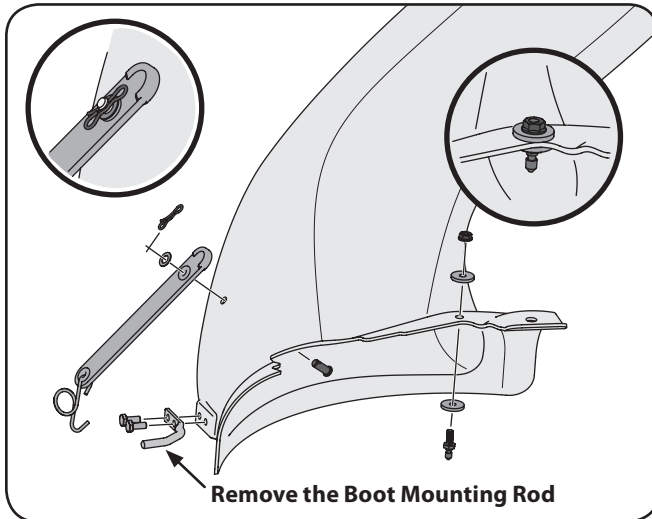

Figure 4-17
1. Install one of the rubber chute straps onto the chute elbow using one of the supplied clevis pins (711-05063), washer (736-0204) and Bow-tie cotter pins (714-04040) from hardware pack 689-00318A. See Figure 4-17. Secure the end of the strap utilizing the hole furthest from the end, insert the smaller hook end of the torsion spring hook (732-04510A) into the other end.
Note: On decks with front deck wheels, the boot mount rod must be removed in order to install this discharge chute elbow onto the tractor. See Figure 4-17.
2. Install the deck mounting pin (711-05049) up into the chute elbow using two flat washers (936-0176) from hardware pack 689-00318A and secure with a flange lock nut (912-3027), as shown in Figure 4-17.
3. Remove the boot mounting rod and hardware at indicated in Figure 4-17.